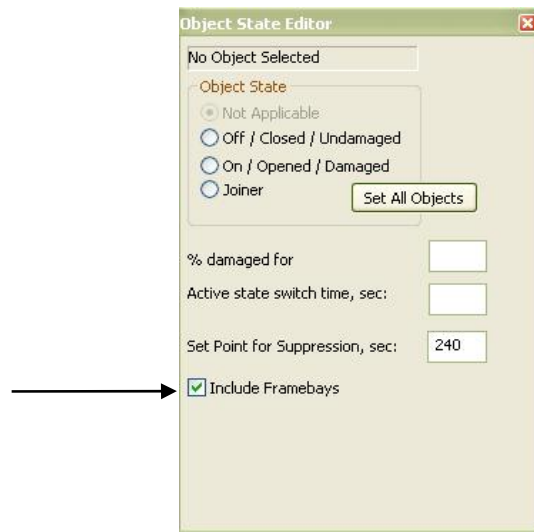

Figure 3.6 Including Framebays in the Object State Editor
Step 6: In the object state popup window (Figure 3.6), check the *Include FrameBays* box. This currently applies only to the Confined\_Space.